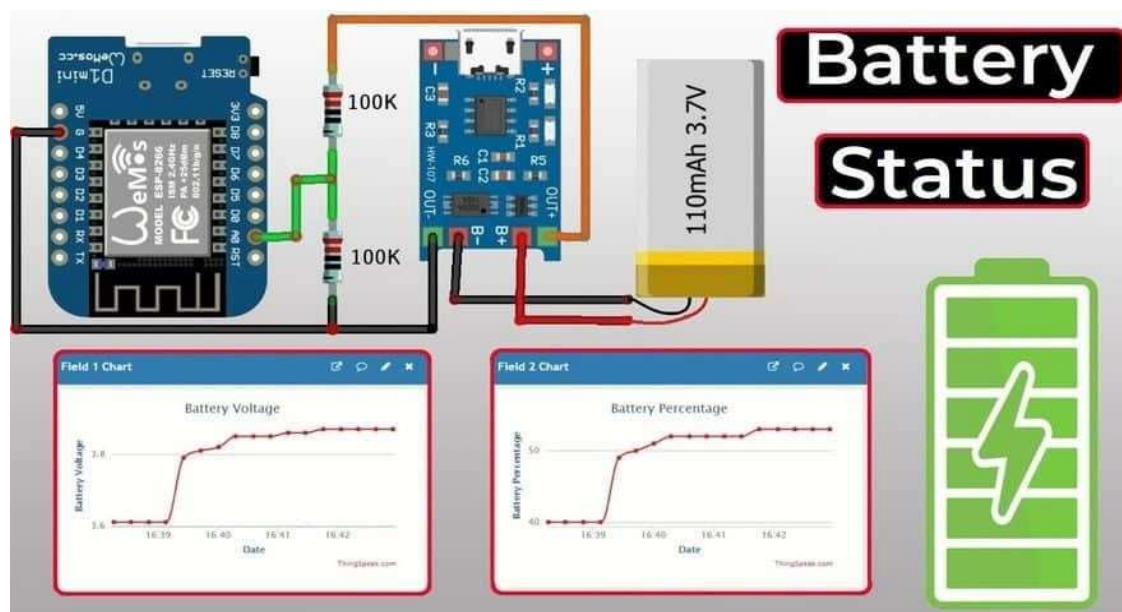

Fig 5: IoT Based Battery Status Monitoring System using ESP8266
• Fig 5:	IoT Based Battery Status Monitoring System using ESP8266